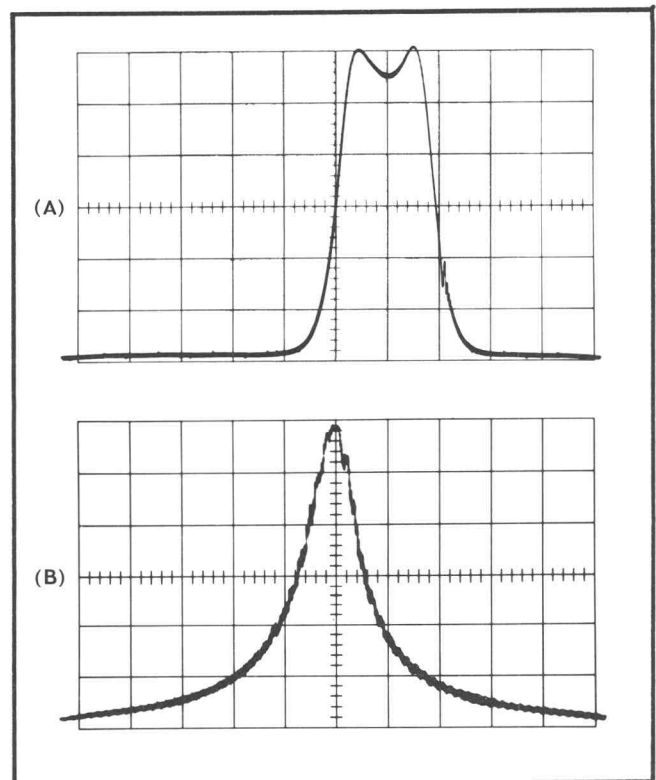

Fig. 6-11. Typical spectrum display for Step 4k. (A) 100 kHz/CM Resolution, (B) 1 kHz/CM Resolution.
k. When properly calibrated, the resolution waveform should be 100 kHz wide at 3 centimeters above the baseline when the RESOLUTION control is turned fully clockwise, and should become narrower at each step as the control is turned counterclockwise. At the fully counterclockwise position, the resolution should not be more than 1 kHz wide at 3 centimeters above the baseline. (See Fig. 6-11.)